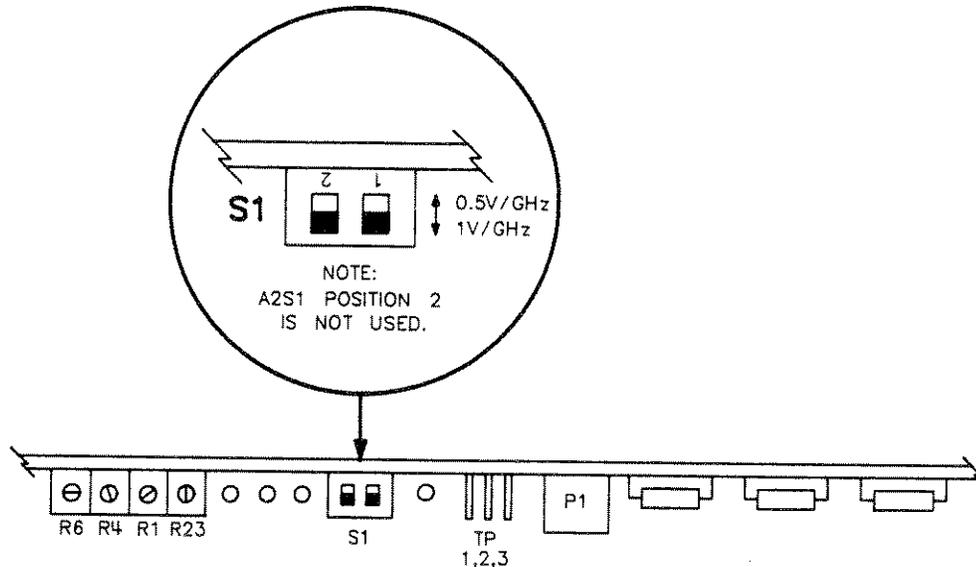

Figure 3-6. Frequency Reference Output Selection Switch, A2S1
- 1.0/0.5 V/GHz.** Internally selectable BNC connector output (1.0 or 0.5 V/GHz) that corresponds to the RF output frequency. The 1.0 V/GHz has a frequency range of 0.01 to 18.0 GHz; the 0.5 V/GHz has a frequency range of 0.01 to 26.5 GHz. Figure 3-6 shows how to set the frequency reference output selection switch A2S1.
Use position 1 on A2S1 to set the frequency reference. See figure 3-6.